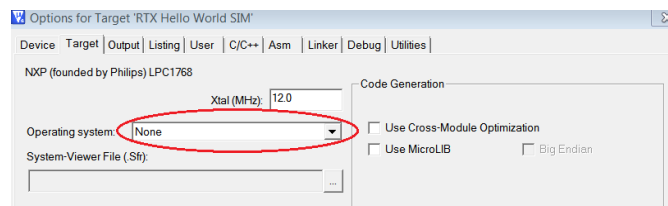

Figure 2.25: Keil IDE: Removing Linkage with Stocked RTX Library
2. Remove the pre-built RTX library by ARM from the target option setting (see Figure 2.25).